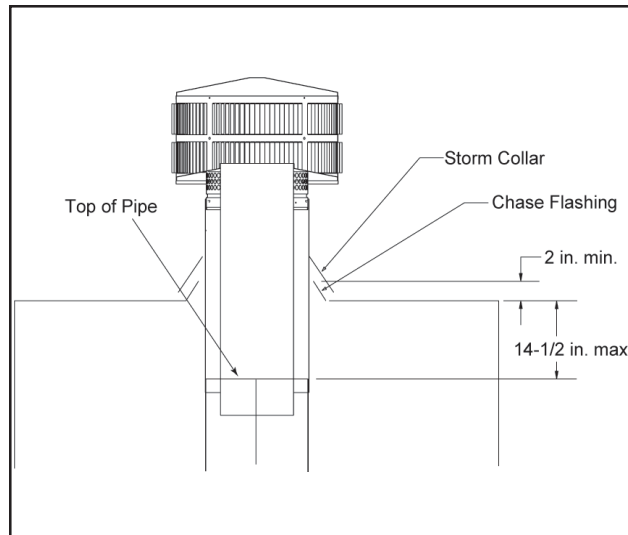

Figure 23 - Installing a TR342 Round Telescoping Termination Cap
- b. For installations utilizing a TR342 telescoping round termination cap, the uppermost chimney section must be below the top of the chase top, but not more than 14-1/2 in. below the top of the chase top flashing collar. See Figure 23.